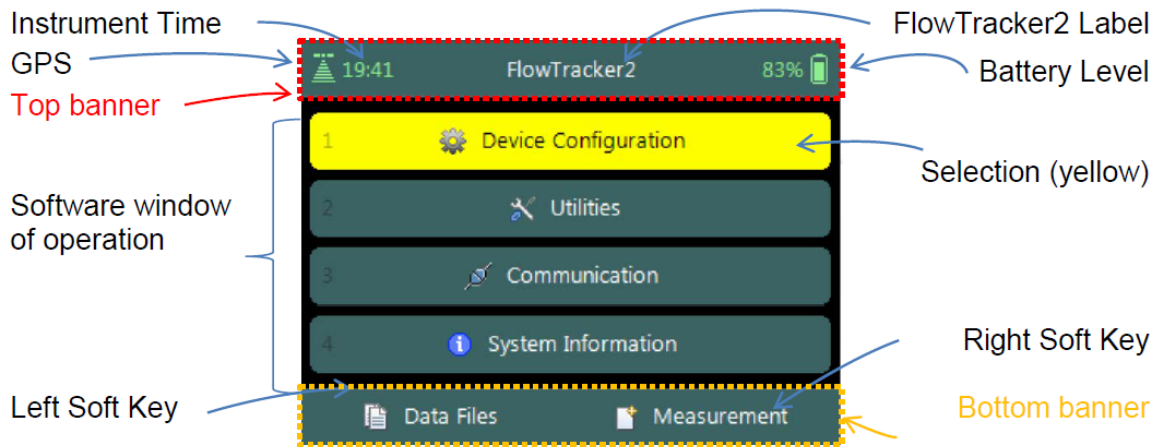

Figure 3. FT2 main menu screen layout
Figure 3. Changes in control features for an engineered weir at varying flow conditions. During low flow (A) water flows through the center notch only. At high flow (B) the side wing walls are overtopped. These changes to the features controlling the water level in the pool greatly influence the stage-discharge relationship and can be observed in the rating equation (C). Note how different segments in the rating curve correspond to the changes in control.